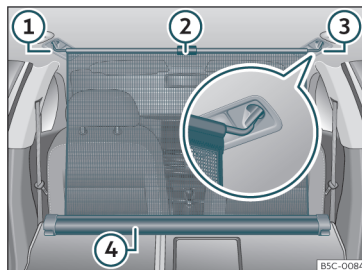

Fig. 124 In the luggage compartment: net partition hooked in place with the rear seat backs folded down.
- Pull up handle»» **Fig. 124 ②** to remove the net from the casing»» **Fig. 124 ④**.
- Hook in the net partition on the right or left side»» **Fig. 124 ③** (magnified image).
- Hook in the net partition into the housing on the other side»» **Fig. 124 ①** by pulling the rod.
The net partition is properly assembled when the T-shaped ends are firmly secured in the corresponding housings»» **Fig. 124 ③** and **①**.
- Roll up the net into the casing»» **Fig. 124 ④** lowering it with your hand.